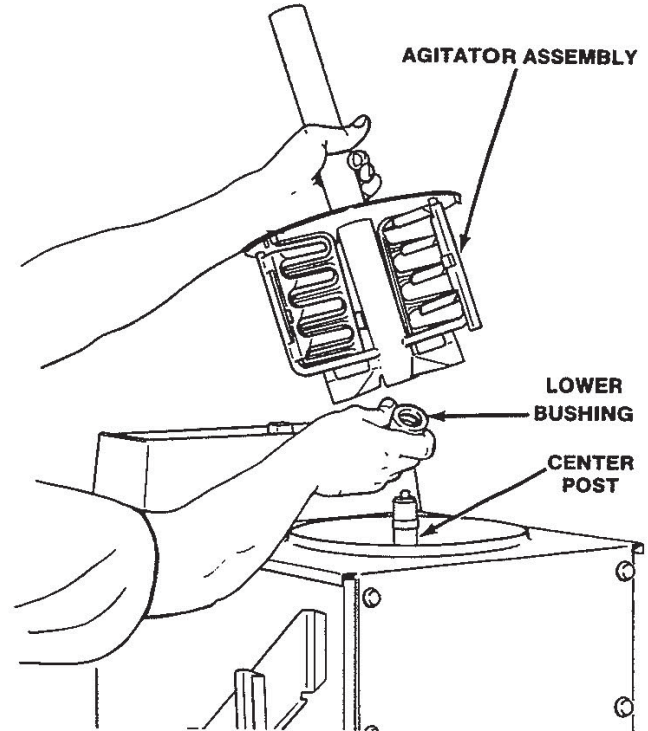

Figure 22. Removing Agitator Assembly and Lower Bushing
4. Once the divider plate and agitator assembly is lifted off the vertical product cylinder center post and out of the product cylinder, remove the plastic agitator bushing from the bottom of the product cylinder center post by lifting up and out of the product cylinder (Fig. 22).